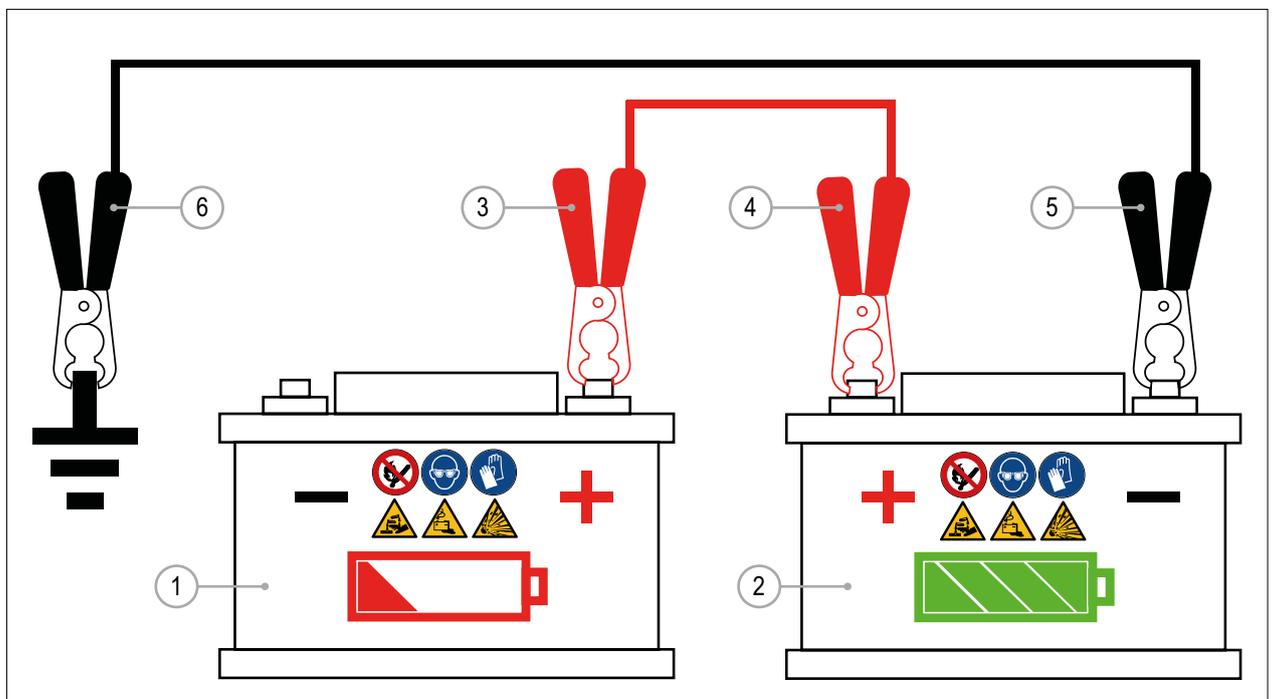

FIG. 17
If the machine battery (FIG. 17 - Rif. 1) is disabled it is possible to start the engine using an booster battery and the booster cables (FIG. 17 - Rif. 2) or a booster.
- 3) Connect positive (+) booster cable to disabled machine battery positive(+) post (FIG. 17 - Rif. 3).
- 4) Connect other end of positive(+) booster cable to booster battery positive(+) post (FIG. 17 - Rif. 4).
- 5) Connect negative (-) booster cable to booster battery negative (-) post (FIG. 17 - Rif. 5).
- 6) Connect other end of negative (-) booster cable to a metal part of machine frame or engine, away from battery (FIG. 17 - Rif. 6).